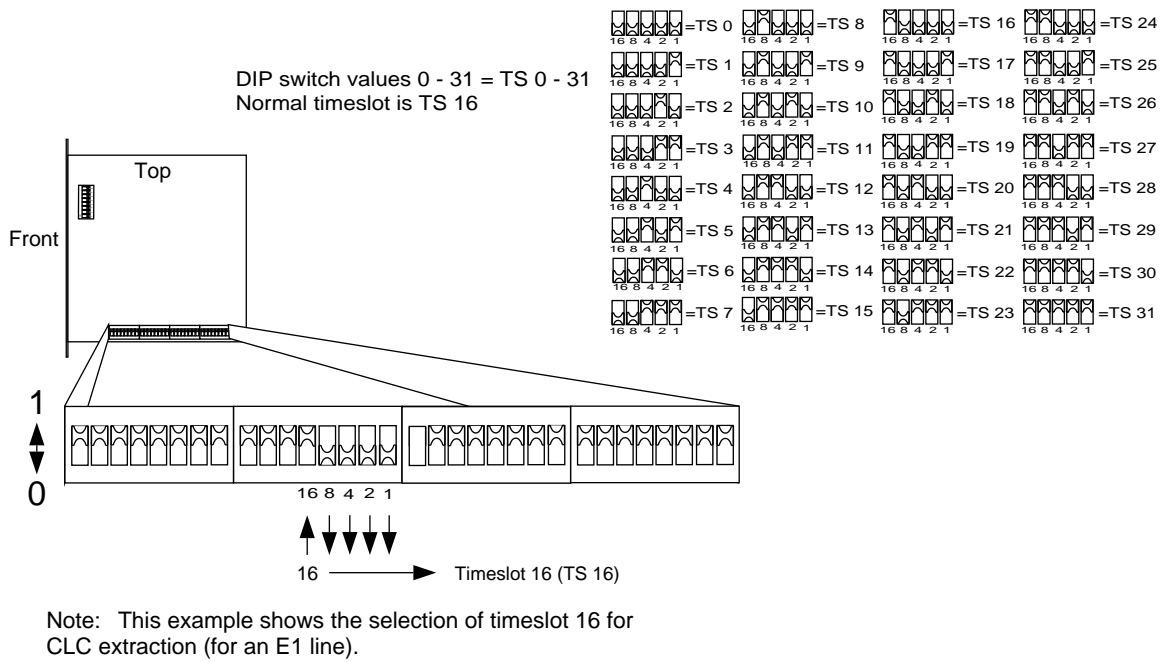

Figure 4-29. Setting the CLC Extraction Timeslot for E1
11. For an E1 PCM line, select the timeslot (TS) for Control signaling Link (CLC) extraction, as shown in Figure 4-29 on page 4-47 in accordance with the *Configuration Data* in the *Site Installation Documentation*.